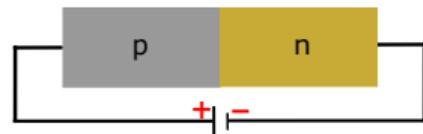

Fig. 3.7: Forward bias of a  $p$ - $n$  junction.
- ▶ When  $V = 0$  is applied across the  $p$ - $n$  diode (Fig. 3.7 or Fig. 3.6), the junction is **short-circuited**.